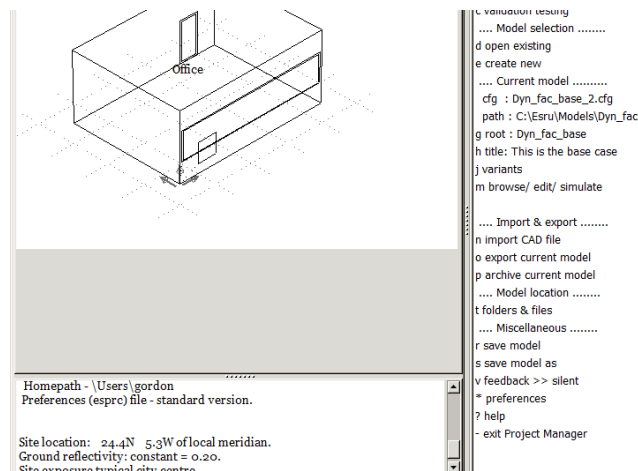

Figure 1
**Step 2:** click >*browse/edit/simulate* (figure 1)